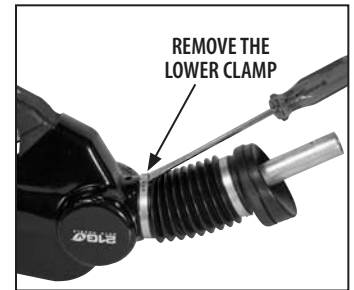

FIGURE 2
- 2) Remove the lower clamp from the old vapor boot and discard the clamp. (Figures 2 & 3)